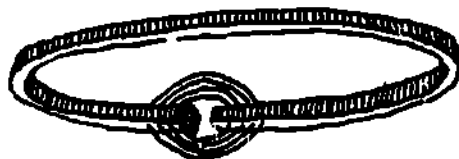

Fig 3-2. Repairing fan belt.
c. Broken fan belt. Repair a broken fan belt by splicing it with wire as shown in figure 3-2. Lacing a belt together with leather shoelaces is another expedient.